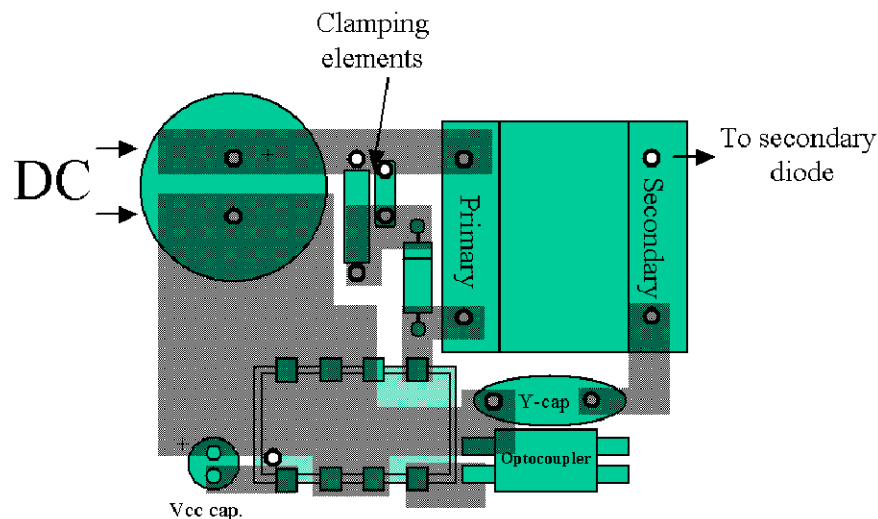

Figure 25. A Possible PCB Arrangement to Reduce the Thermal Resistance Junction-to-Ambient
1.0 W for an ambient of 50°C. The losses inherent to the MOSFET R_{DSon} can be evaluated using the following formula: $P_{mos} = \frac{1}{3} \cdot I_p^2 \cdot d \cdot R_{DSon}$ (eq. 13), where I_p is the worse case peak current (at the lowest line input), d is the converter operating duty-cycle and R_{DSon} , the MOSFET resistance for $T_j = 100^\circ\text{C}$. This formula is only valid for Discontinuous Conduction Mode (DCM) operation where the turn-on losses are null (the primary current is zero when you restart the MOSFET). Figure 25 gives a possible layout to help drop the thermal resistance. When measured on a 35 μm (1 oz) copper thickness PCB, we obtained a thermal resistance of 75°C/W.